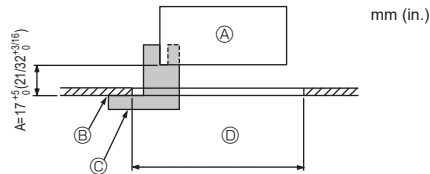

Fig. 6-2
①	Grille	1	950 × 950 (mm), 37-13/32 × 37-13/32 (in.)
②	Gauge	1	Divided into 4 parts
③	Screw (4 × 16)	1	For PLFY-EM-NEMU-A
④	3D i-see Sensor corner panel	1	For PLFY-EM-NEMU-A
6.2. Preparing to attach the grille (Fig. 6-2)
- With the gauge ② supplied with this kit, adjust and check the positioning of the unit relative to the ceiling. If the unit is not properly positioned relative to the ceiling, it may allow air leaks or cause condensation to collect.